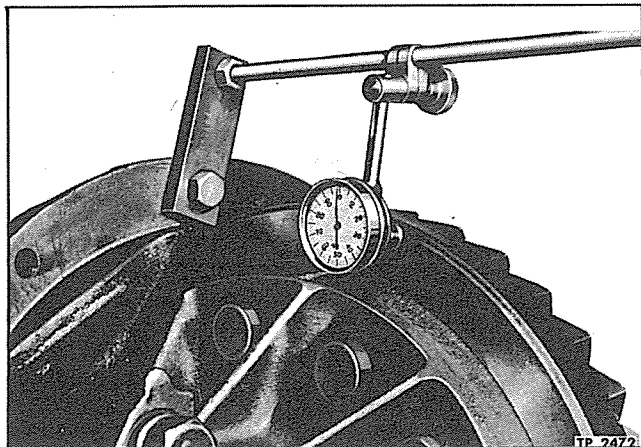

Figure 2—Bevel Gear Run-Out Measurement
4. Place left-hand section of differential case on right-hand section with alignment marks positioned as shown in figure 2, page 55, then insert case bolts (9) downward through left-hand section.
5. Install nuts (5) on bolts (9), tighten to minimum torque (155-200 foot-pounds). Tighten each nut until next castellation on nut lines up with hole in bolt, then install lock wire through all bolts.
6. Position drive gear (8) on differential case (18) flange, then install attaching bolts (41). Tighten bolts securely, then install lock wire (42) through bolt heads in such a manner that lock wire will become tighter as bolts loosen.
7. Press differential side bearings (12) on differential case (40) hubs until bearing cones seat firmly against case hubs.
5. Install washers and nuts on bearing cap studs, tighten nuts snugly, then back nuts off until bearing adjusting rings (10) can be turned.
6. Tighten adjusting rings (10), alternately, until bearings (12) are seated in bearing cups (11). Revolve differential assembly after each tightening to keep bearing cups straight in bores.
7. After side bearings (12) are firmly seated, tighten left-hand adjusting ring one or two notches, then check drive gear run-out in manner shown in figure 2. Run-out should be within limits given in "Specifications" on page 62 in X-4711.